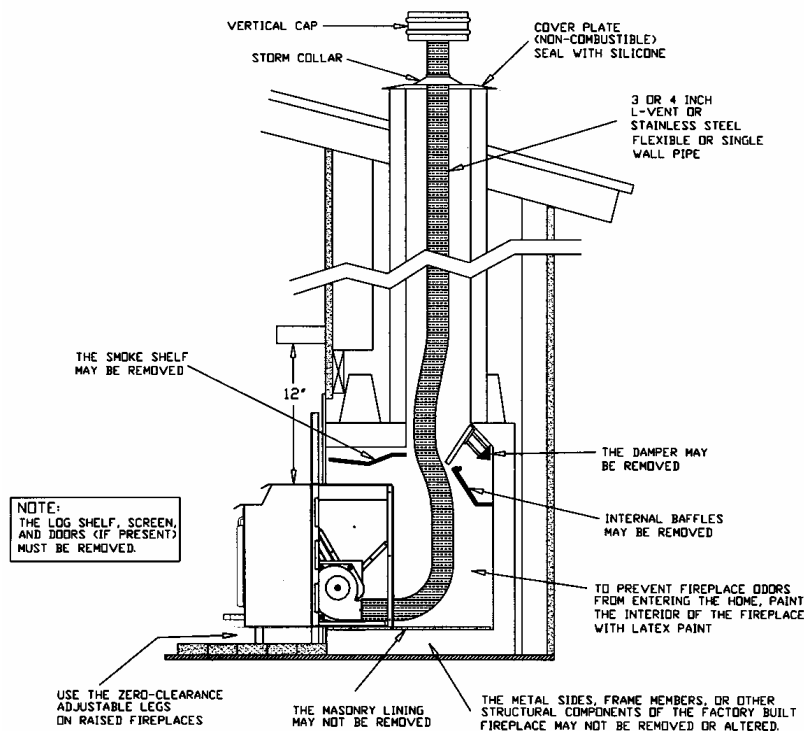

FIGURE 20
E. INSTALLATION IN TO A FACTORY BUILT (METAL) FIREPLACE (Refer to figure 20)